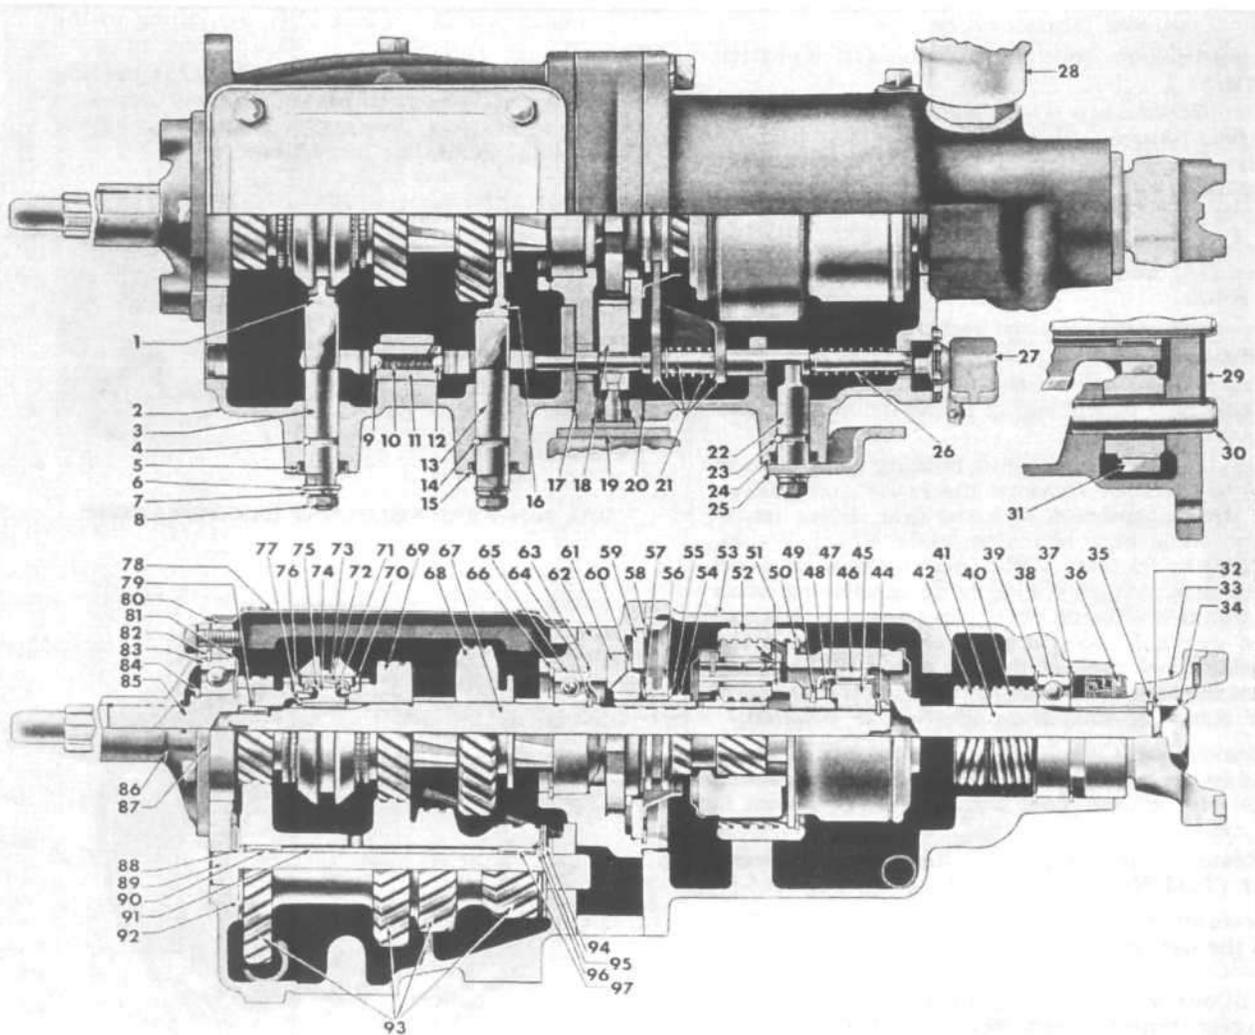

FIG. 202—TRANSMISSION AND OVERDRIVE
A rail switch, Fig. 202, No. 27, was installed on the overdrive unit of all F4-134 2-wheel-drive vehicles up to and including vehicle serial numbers 54747-10084 and 54847-10096. The rail switch was eliminated on all F4-134 vehicles with serial numbers higher than those given above.
Pulling OUT the overdrive control button rotates the control lever (Fig. 202, No. 25) which in turn moves the shift rail and fork assembly (21) to the rear. The movement of the fork moves the stationary gear (54) into engagement with the pinion cage (51), thereby locking the transmission mainshaft to the overdrive mainshaft. The two shafts then rotate as a unit in a one-to-one ratio. On units equipped with rail switches (see Par. K-16), movement of the shift rail to the rear also engages the plunger of the rail switch, thereby opening the electrical circuit of the overdrive.
b. At the time outlined in Par. a above, power is transmitted from the transmission mainshaft to the overdrive mainshaft through the freewheel cam (Fig. 202, No. 45). While the engine is being accelerated, the cam transmits power from the transmission mainshaft to the overdrive mainshaft. However, when the engine decelerates, the cam no longer transmits power, the engine "idles," and the vehicle goes forward under its own momentum. This is freewheeling.
q. Remove the shift rail and fork (51) and the sun gear (15) by pulling both to the rear.
r. Remove the snap ring (12) from the housing adapter.
s. Remove the cover plate (11) bulk ring and gear plate (10) and stationary gear pawl (Fig. 202, No. 18). The balk ring is a slip fit on the gear plate and can be removed by pulling the ring from the plate hub.